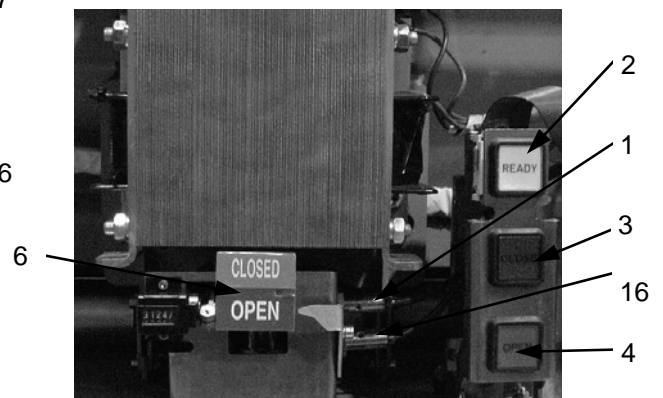

Figure 2d: Switch position indicator
5.5 PROXIMITY SENSOR SYSTEM (Figure 2d)